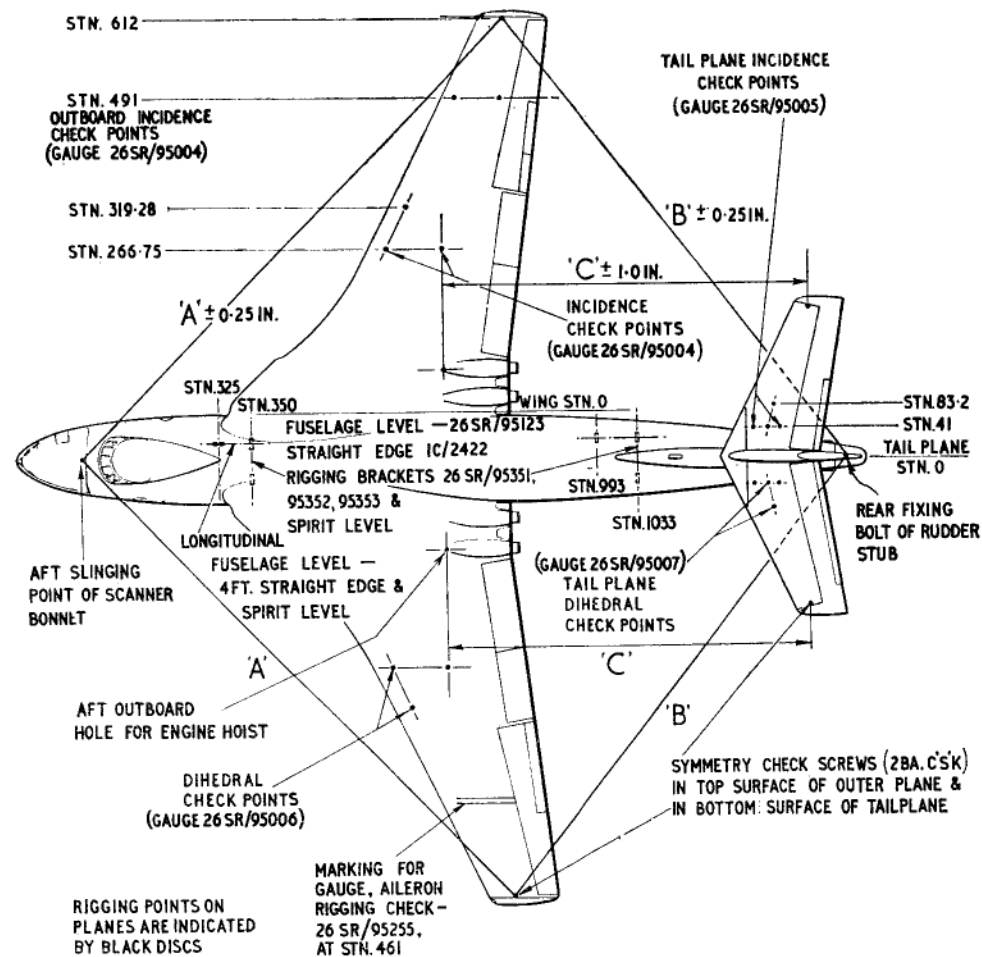

Fig. 3. Rigging diagram
4. The drain holes (fig. 3) should be kept clear of obstruction.